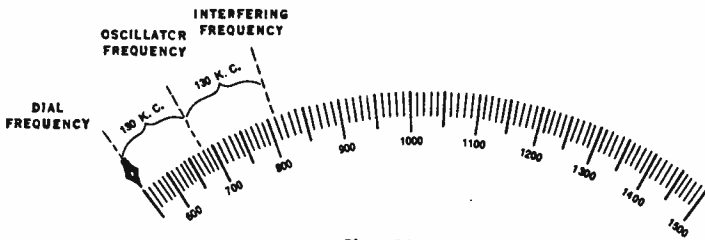
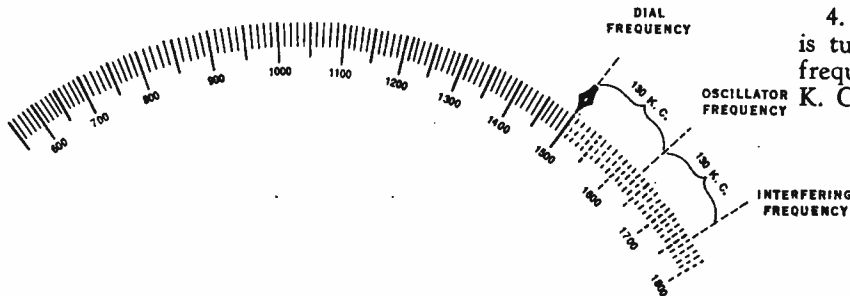

FIG. 263
FIG. 264
4. Thus in Figure 263, when the dial is tuned to 550 K. C., the interfering frequency is 260 K. C. more, or 810 K. C. Or, as in Figure 264, when the dial is tuned to 1500 K. C., the interfering frequency is 260 K. C. more, or 1760 K. C.